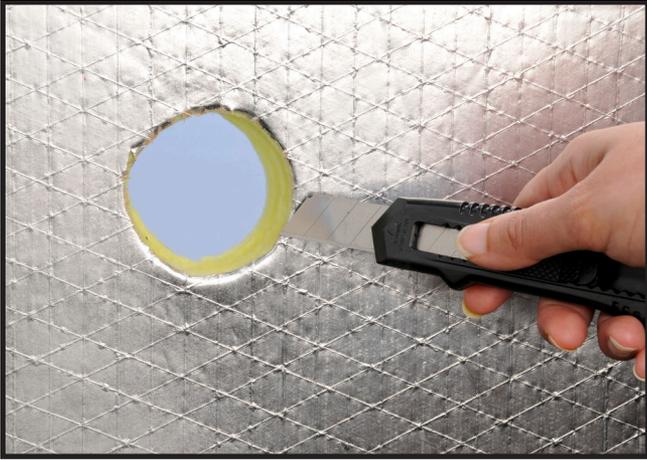

Figure 3
- Using a 3" hole saw (or other suitable means), cut a 3" hole into the plenum / duct box AFTER the fan. Cutting into fiberboard is usually easier than metal, and can be done with a utility knife (Figure 3). Be sure you are drilling into the ductwork only and not penetrating into the mechanical areas of your HVAC system.